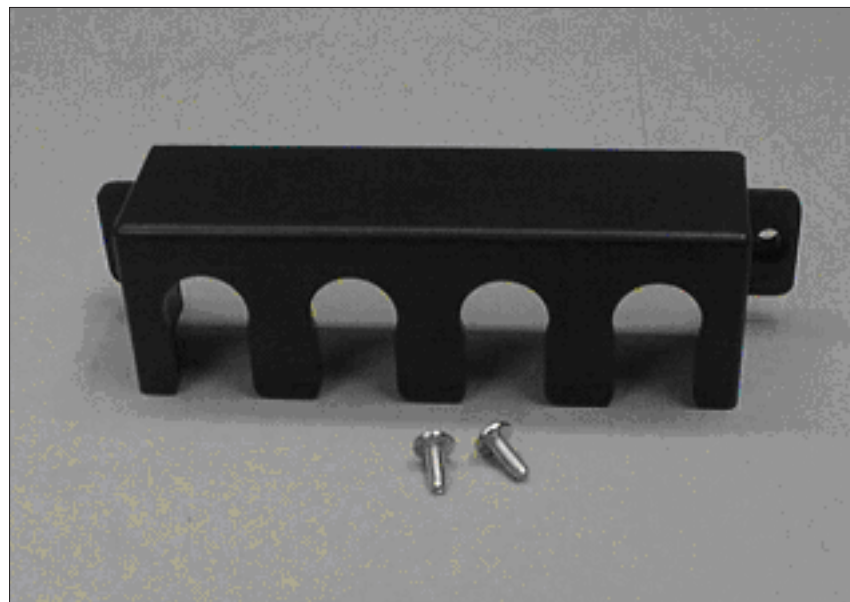

Figure 34. 2145-1U uninterruptible power supply power cable retention bracket hardware
2. Remove the bracket and the two screws (shown in Figure 34) from the packaging.